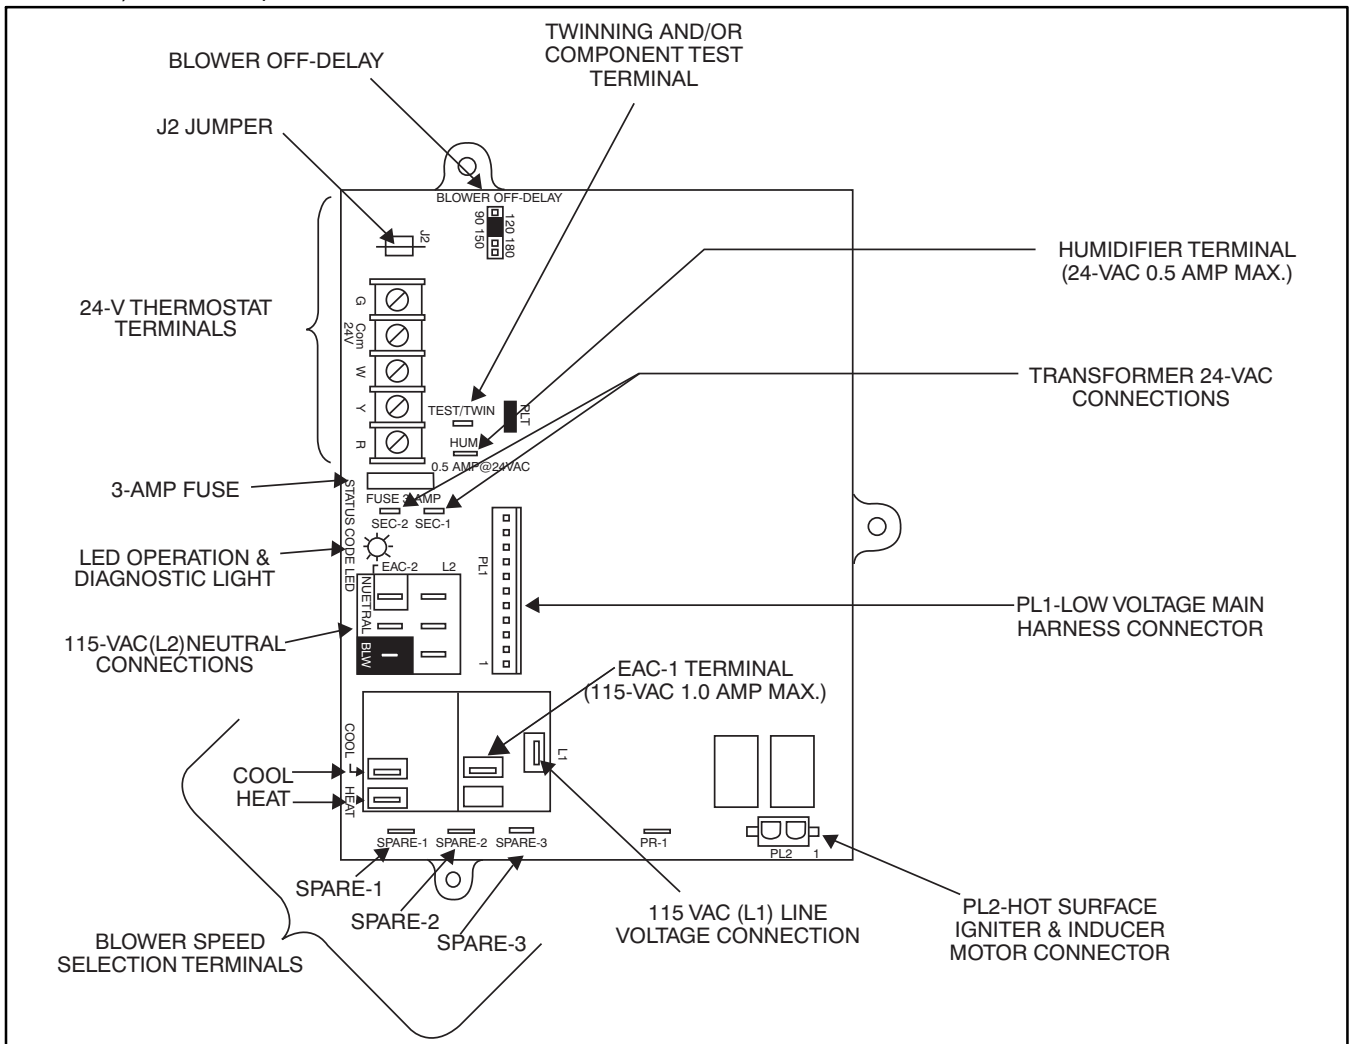

Figure 2 – Example of Single Stage Furnace Control
- f. Jumper R and W thermostat connections on control to start furnace. (See Figure 2.)
Change the blower speed taps as required to maintain proper temperature rise for Heating and Cooling as described above. To change blower motor speed selections for heating mode, remove blower motor lead from control HEAT terminal(s). (See Figure 2) Select desired blower motor speed lead(s) from the other motor leads and relocate it/them to HEAT (heating blower tap) terminal(s). Reconnect original lead on SPARE terminal.
If desired, the main blower off time delay period may be lengthened or shortened when operating in the heating mode to provide greater comfort. For position and location of jumpers on control center. (See Figure 2 and Figure 16) The blower off-delay has four adjustable settings from 90 sec to 180 sec. (See Table 1) To change the blower off delay setting, move the jumper from one set of pins on the control to the pins used for the desired blower off delay. Factory blower off-delay setting is 120 sec.
NOTE: If there is a jumper connector plugged into PLT, remove it and discard. (See Figure 2)
3. Verify that the Blower/Heat Off Delay jumpers are set as desired. (See Figure 2 and Figure 16)